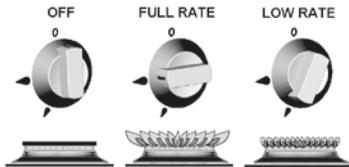

Fig. 1
3. To light: Push in the control knob and turn to full rate – see Fig. 1. Hold a lighted match or taper to the burner and push the control